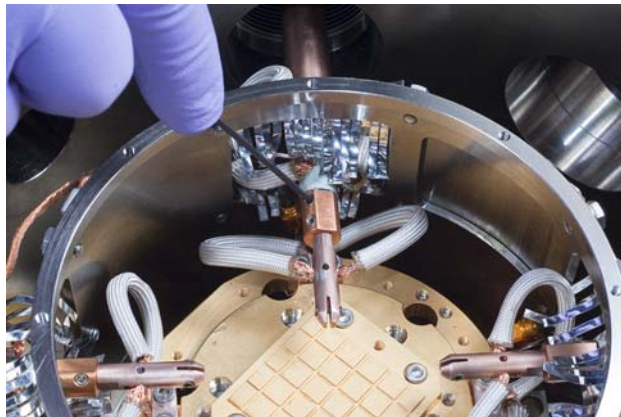

FIGURE 3-31 Loosen the probe arm set screws
1. Using the 1.5 mm hex driver, loosen the set screws on the probe arm so that the probe mount can rotate freely (FIGURE 3-31).
5. Using the 1.5 mm hex driver, loosen both M3 probe arm set screws two to three turns and slide the dowel out of the probe arm (FIGURE 3-31).
4. Using the 1.5 mm hex driver, loosen the set screws on the probe arm and slide the dowel of the microwave probe into the probe arm (FIGURE 3-31).